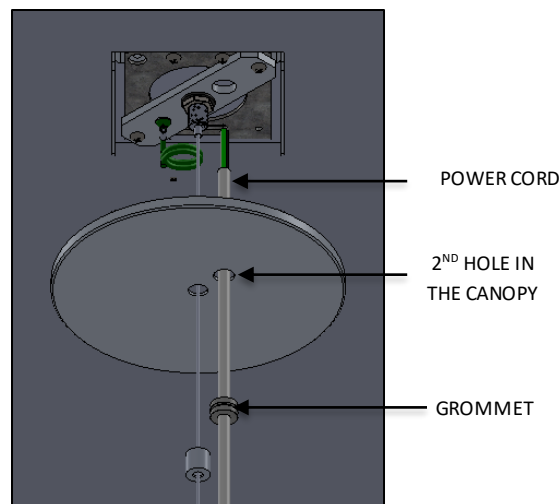

FIG. 30 – CORD INSTALLATION
5. Feed POWER CORD from the FIXTURE BODY to the CANOPY through GROMMET and then pass it through the 2ND hole provided in the CANOPY as shown below in FIG. 30.